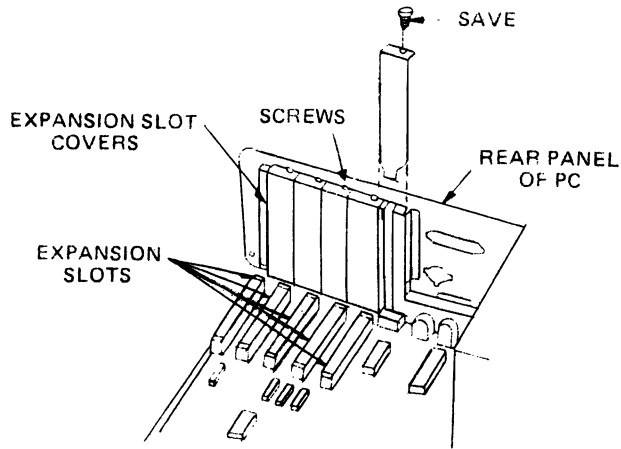

Figure 1. Expansion Slot
- Look inside the system unit. In the left rear are locations of expansion slots (see fig. 1).
- Remove the corresponding system expansion slot cover screw, and pull out the cover. (see fig. 1), save both items.